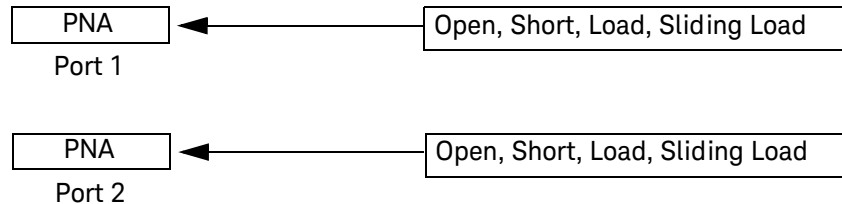

Figure 1-4 System calibration setup
- 1** Set up the equipment for system calibration according to Figure 1-4.